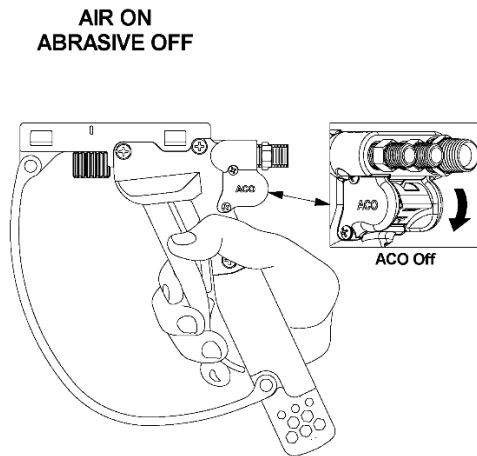
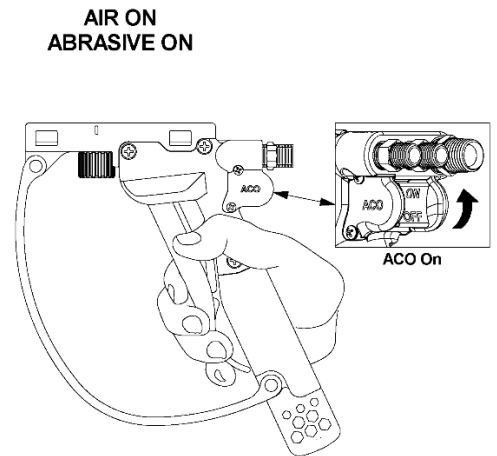

Figure 6.4
Figure 6.5
- 5.3.9 To test the G3 Trigger Deadman **2 Position w/ACO Module**, rotate the ACO switch to the “Off” position. Press down the Safety Flap (#12) and pull the Trigger (#13) to activate the deadman valve to start the AIR ONLY operation (See Fig 6.4). Release the trigger to stop blasting. Rotate the ACO switch to the “On” position. Press down the Safety Flap (#12) and pull the Trigger (#13) to activate the deadman valve to start the blast (AIR AND ABRASIVE) operation (See Fig 6.5). Release the trigger to stop blasting.
- 5.4.7 To test the G3 Trigger Deadman **2 Position w/ACO Module**, rotate the ACO switch to the “Off” position. Press down the Safety Flap (#12) and pull the Trigger (#13) to activate the deadman switch to start the AIR ONLY operation (See Fig 6.4). Release the trigger to stop blasting. Rotate the ACO switch to the “On” position. Press down the Safety Flap (#12) and pull the Trigger (#13) to activate the deadman switch to start the blast (AIR AND ABRASIVE) operation (See Fig 6.5). Release the trigger to stop blasting.
- 6.17.1 Rotate the ACO switch to the “Off” position if you want AIR ONLY exiting the blast nozzle (Figure 6.4).
- 6.17.2 Rotate the ACO switch to the “On” position if you want AIR AND ABRASIVE exiting the blast nozzle (Figure 6.5).